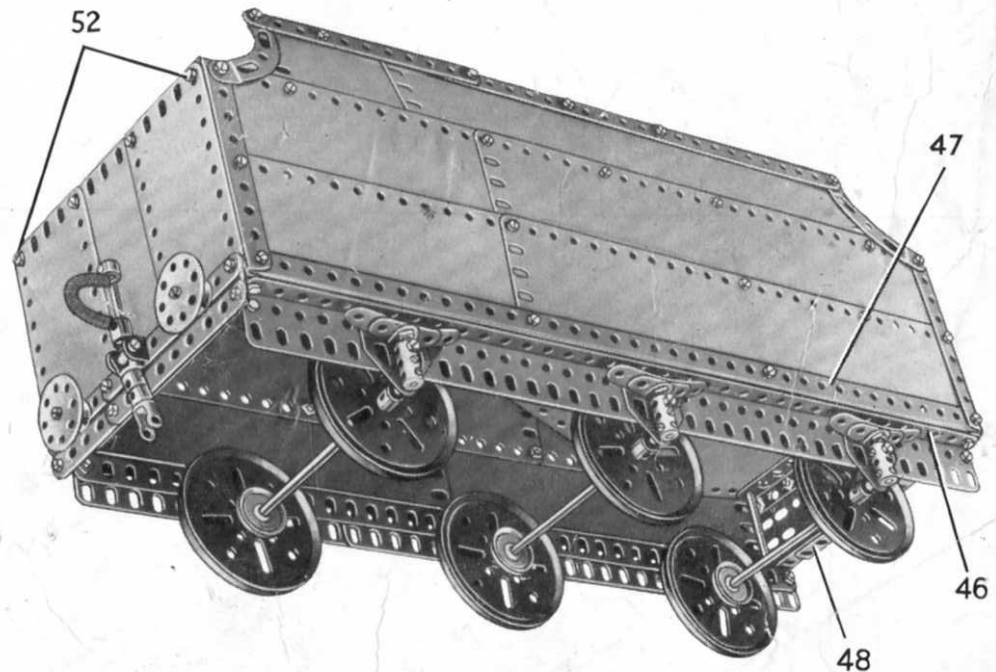

FIG. 9 Another view of the Tender
Each side of the underframe is made by bolting a  $12\frac{1}{2}$ " Flat Girder and a  $9\frac{1}{2}$ " Flat Girder to an  $18\frac{1}{2}$ " Angle Girder (46) (Fig. 9). A further  $18\frac{1}{2}$ " Angle Girder (47) is fixed to the Girder (46), and the sides are connected at each end by built-up girders (48), each made from a  $5\frac{1}{2}$ " and a  $2\frac{1}{2}$ " Angle Girder overlapped three holes. The wheels are free to turn between Spring Clips and 1" Pulleys on  $6\frac{1}{2}$ " Rods, which are mounted in Flat Trunnions and in Couplings fixed to the Flat Trunnions by  $\frac{3}{4}$ " Bolts. The leaf spring above each Coupling is formed by a  $2\frac{1}{2}$ " Strip and a  $1\frac{1}{2}$ " Strip supported by an Angle Bracket.
The front pair of  $4\frac{1}{2}$ " Angle Girders is connected by a built-up girder (50), made from a  $5\frac{1}{2}$ " and a  $2\frac{1}{2}$ " Angle Girder. A  $5\frac{1}{2} \times 1\frac{1}{2}$ " Flexible Plate is fixed between this and the girder (48). A further built-up girder (51), made in the same way as the girder (50), is fixed in position, and to these girders are bolted three  $12\frac{1}{2} \times 2\frac{1}{2}$ " Strip Plates. The Strip Plates are curved as shown and are attached to the Girders (49). Each Strip Plate is extended by two  $4\frac{1}{2} \times 2\frac{1}{2}$ " Flexible Plates. These are supported at their rear ends by a built-up girder held by bolts (52) (Fig. 9), and made from a  $5\frac{1}{2}$ " and a  $1\frac{1}{2}$ " Angle Girder. A Boiler End is attached to this girder by an Angle Bracket.
The back of the tender is filled in by three  $4\frac{1}{2} \times 2\frac{1}{2}$ " Flexible Plates, edged at their lower ends by two built-up strips each made from two  $4\frac{1}{2}$ " Strips. The buffers are Wheel Discs and  $\frac{1}{2}$ " fixed Pulleys on  $\frac{3}{4}$ " Bolts. The tender coupling and the brake pipe are arranged as shown in Fig. 9.